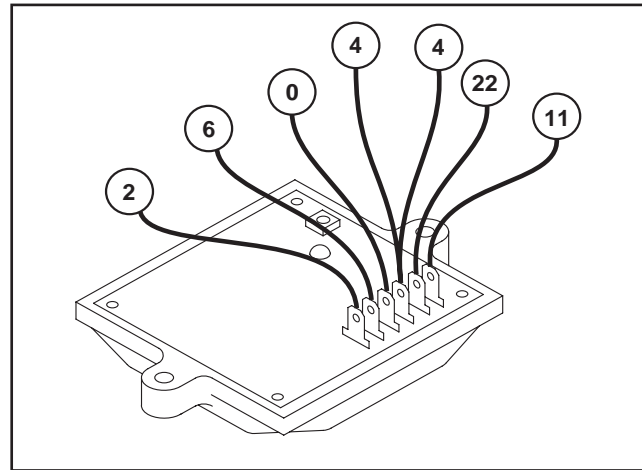

Figure 2. Voltage Regulator
1. Disconnect Wire 4 from the voltage regulator, 3rd terminal from the top. See Figure 2.
4. Disconnect Wire 2 from the voltage regulator and connect one meter test lead to that wire. Disconnect Wire 6 from the voltage regulator and connect the other meter test lead to that wire. Wires 2 and 6 are located at the bottom two terminals of the voltage regulator (see Figure 2).
7. Disconnect Wire 11 from the voltage regulator and connect one meter test lead to that wire. Disconnect Wire 22 from the voltage regulator and connect the other meter test lead to that wire (both wires are located at the top two terminals of the voltage regulator, see Figure 2).
TEST 4 Results - Fixed Excitation Test/Rotor Amp Draw Test, Figure 2